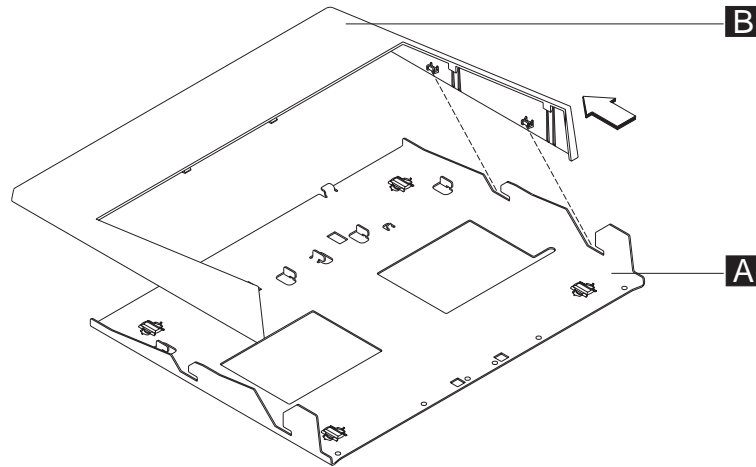

Figure 18. Sliding the fence off of the integration tray
- 2) Alternating from side to side, slide the plastic fence **B** about 7 mm (0.25 in.) until the plastic fence is detached from the metal integration tray **A**, as shown in Figure 18 on page 25.